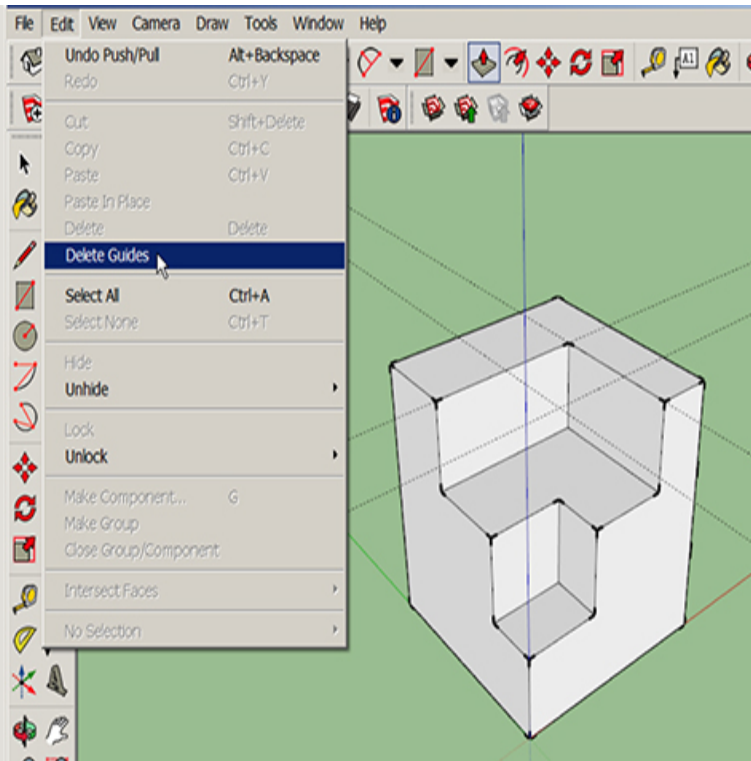

Figure 3-11 Delete all guidelines at once at Edit > Delete Guides.
8. Delete the guidelines by clicking Edit > Delete Guides (Figure 3-11). Done!